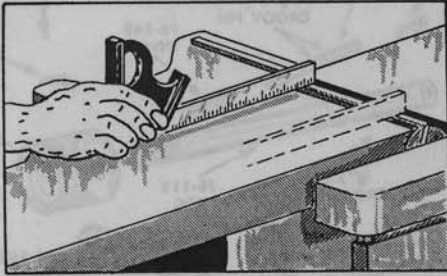

Fig. 8 Jointer blades should be checked regularly for alignment to maintain absolute accuracy.
5. Place a steel rule on the rear table so that one end projects over the cutter blades, see Figure 8.
3. Revolve cutter by hand, placing steel rule along each side, see Fig. 8. If the blades are not properly aligned, DO NOT adjust them separately—the cutterhead can be adjusted. To adjust:
- a) Place a steel rule on the rear table with one end projecting over the cutter blades, see Figure 8.